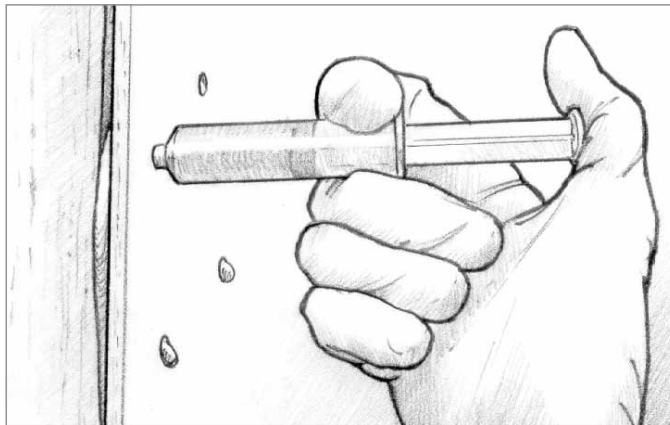

Figure 4-9 *Inject the epoxy mixture until it reaches the surrounding holes.*
3. Inject the mixture into the void through the pattern holes. Force the syringe tip into the lowest pattern hole and inject the mixture until it reaches and begins to ooze from the surrounding holes (*Figure 4-9*).